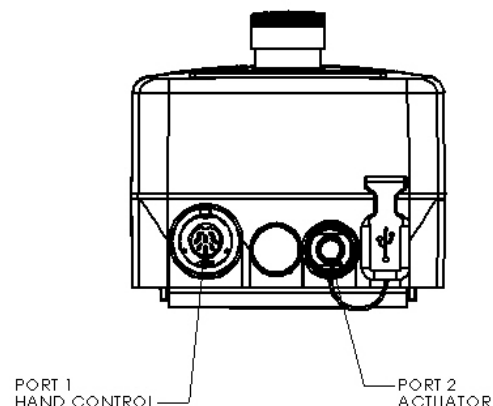

Figure 4. Control Box
8. The LiftOperator Control is pre-assembled on the multiLift™ (see LiftOperator Owner's Manual for more information). Remove the hand control from accessory carton and unwrap. Insert plug into large socket on the LiftOperator control box as shown in **Figure 4**. Make sure plug is secure.
9. Ensure that the actuator plug is secured in the socket as shown in **Figure 4**.